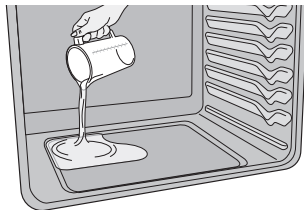

Figure 37: Add 1 cup of tap water
3. Pour 1 cup of tap water onto the oven bottom. (Figure 37) Close oven door.